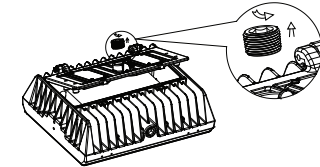

Figure 17
- 1.Remove the plugging screw (Figure 17).